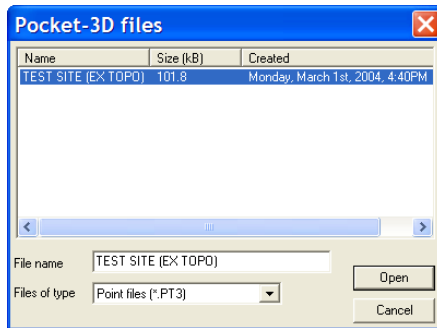

Figure 3-2. Select and Open Pocket-3D Point File
3. On the *Pocket-3D files* dialog box, select the file to import and click **Open** (Figure 3-2 on page 3-3). The file type is automatically selected.